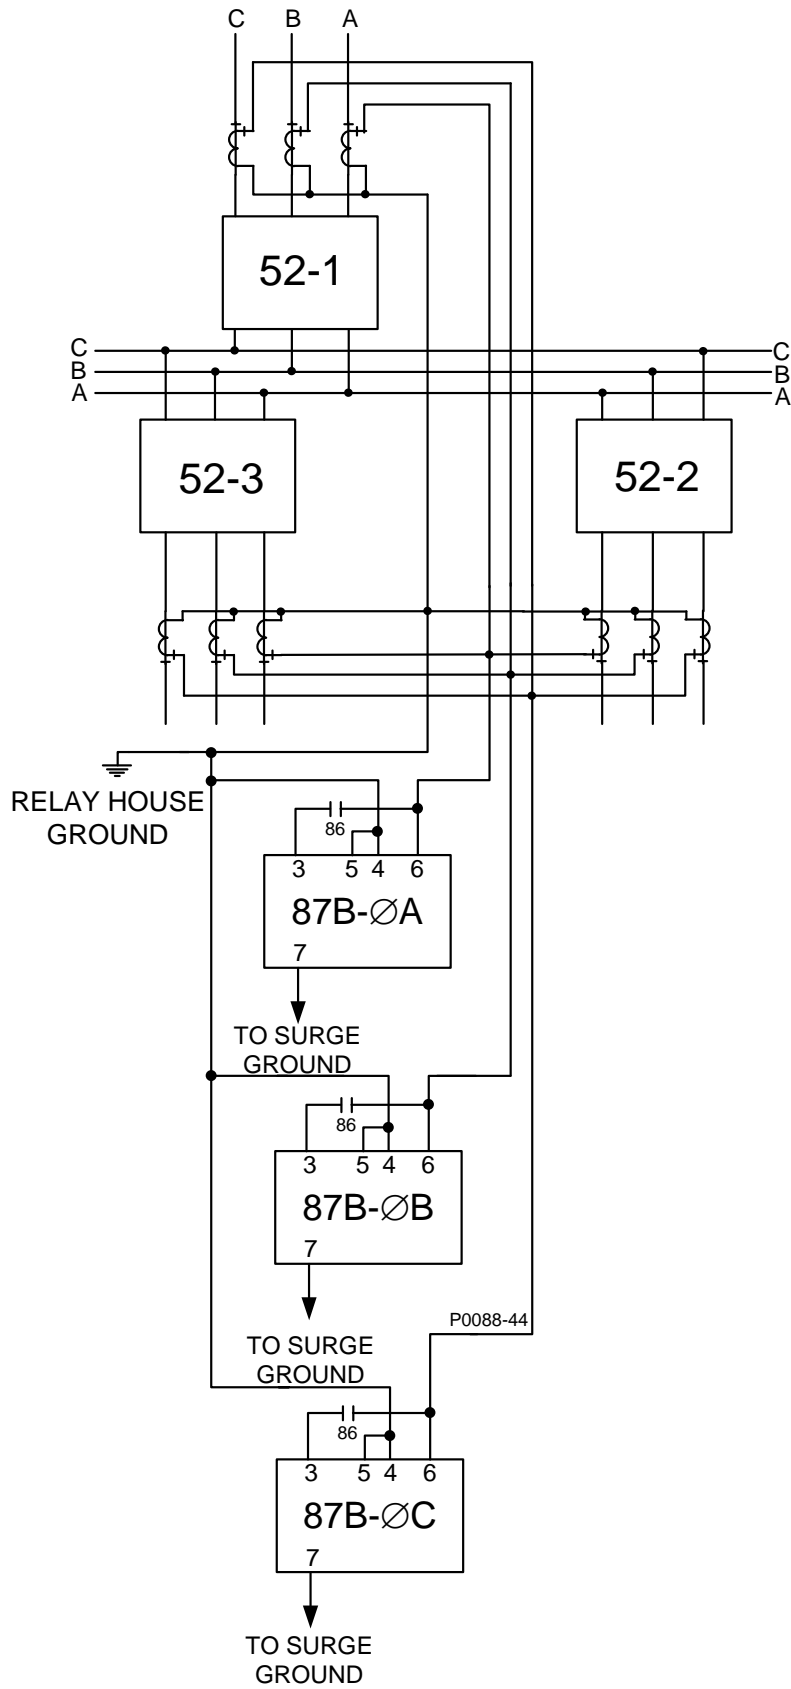
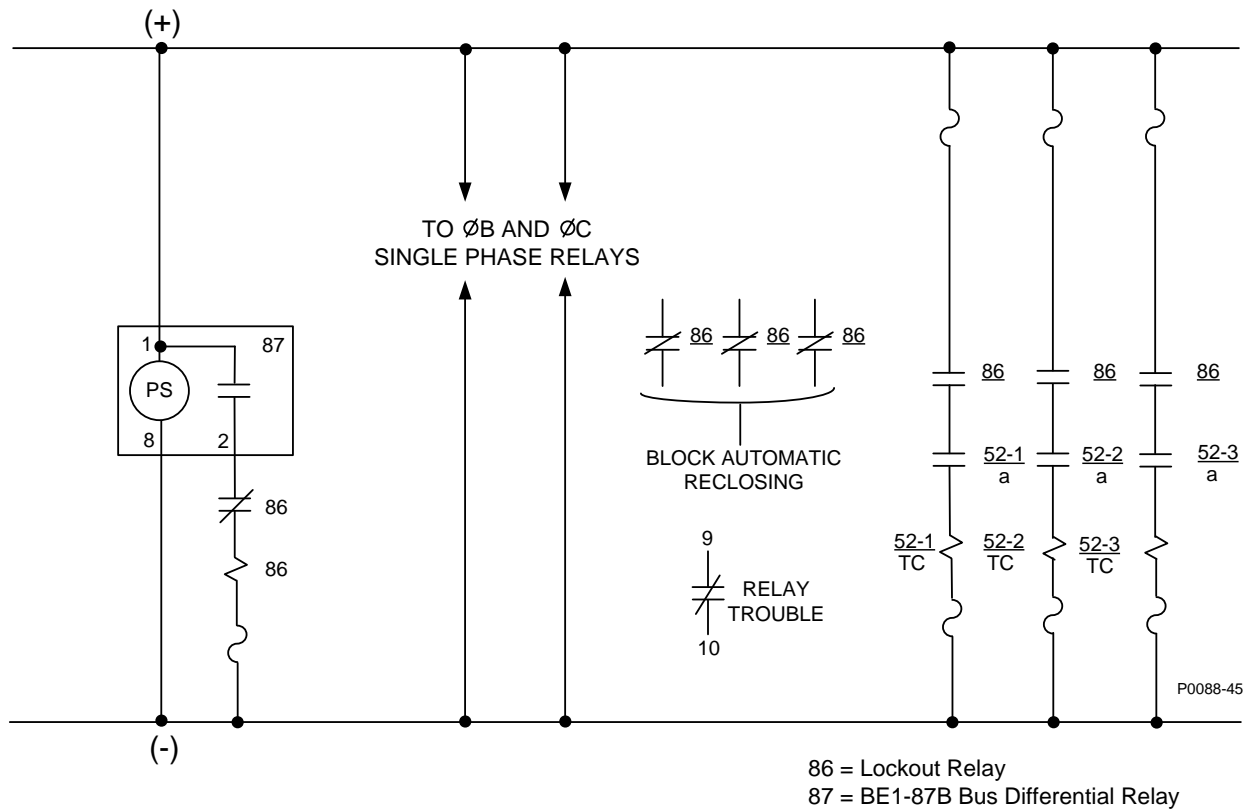
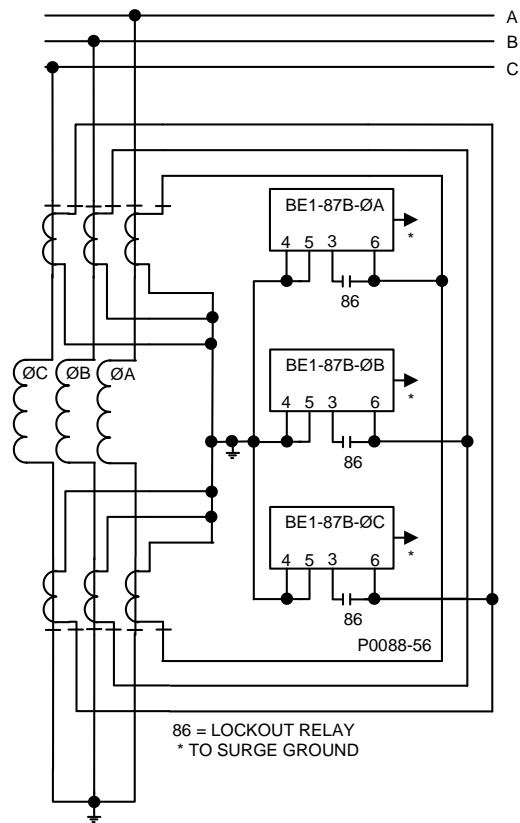
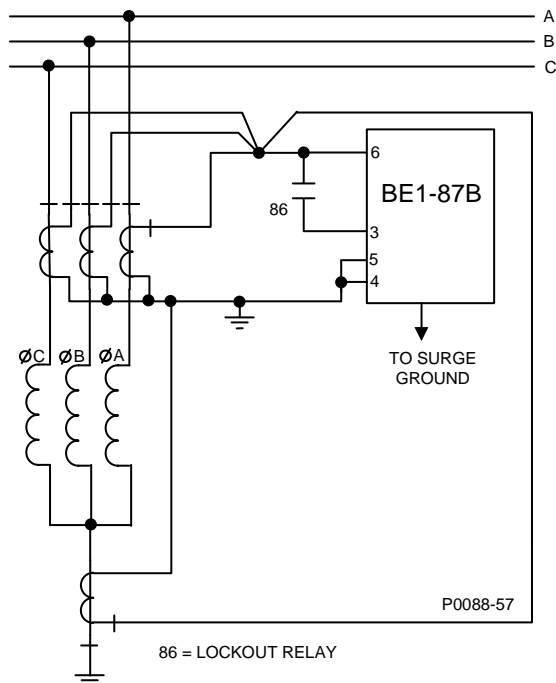

Figure 5. External AC Connections for Bus Protection
Figure 6. External DC Connections for Bus Protection
Figure 7. External AC Connections for Shunt Reactor Protection, Multi-Phase and Line-to-Ground Faults
Figure 8. External AC Connections for Shunt Reactor Protection, Ground Faults
Three single-phase BE1-87B relays and an auxiliary lockout relay (86), provide a complete multi-phase and ground bus fault protection package. Typical external connections to the relays are shown in Figure 5 and Figure 6. The connections are illustrated for a bus with three circuits, but the protection can easily be extended if more circuits are added to the bus. For additional circuits, it is only necessary to connect the CTs associated with the added circuits to the respective junction points and to connect the contacts of the lockout relay in the respective trip circuits. The relay voltage tap setting is based on the maximum voltage that can be developed across the differential junction point during an external fault. Calculation of the maximum voltage is easily made and methods for doing so are given in the paragraph under calculation of settings. A sample calculation for a bus differential scheme is also provided.
Differential protection of shunt reactors may be provided by using one single-phase BE1-87B relay or three single-phase relays. Typical ac external connection diagrams for these schemes are shown in Figure 7 and Figure 8. The dc connections will be similar to those shown in Figure 6. Only ground fault protection will be provided when one relay is applied. Application of either three-phase arrangement will provide both multi-phase and phase-to-ground fault protection. Calculation of the voltage tap setting is basically the same as for the bus application. The procedures for calculating the voltage tap setting for either scheme are provided under *Calculation of Settings*.
The BE1-87B high impedance, differential relay operates on the instantaneous value of CT secondary voltage to which the relay is connected. All the CTs in the differential circuit must have the same turns ratio. If all CTs have the same turns ratio, the voltage developed across the relay during normal system conditions is very small. The diagram of Figure 5 illustrates typical external ac connections to the relay for use in a bus differential scheme. As shown in the diagram, a typical differential connection is used consisting of the CT circuits from each bus device connected in wye and paralleled at one location (summing point) on a per-phase basis. Three single-phase BE1-87B relays or one three-phase relay provide complete protection of the bus. The relay will generate a trip output when the instantaneous voltage applied across terminals 3 and 6 exceeds the voltage pickup setting (V_{DIFF}) and the fault current is greater than the current sensitivity setting.